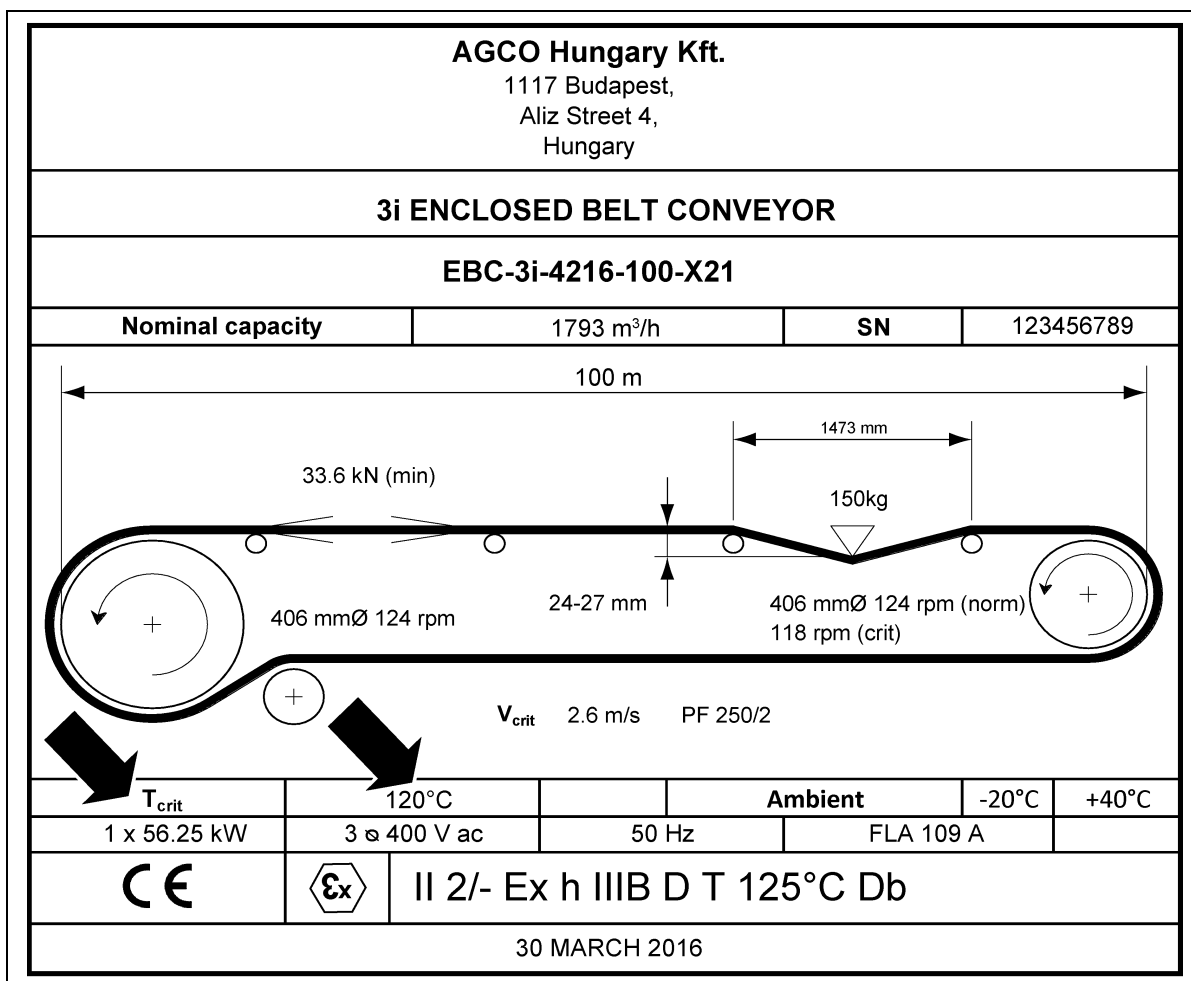

Figure 5C Rating Plate Showing Bearing and Conveyor Critical Temperature
1. Maximum permissible temperature (T_{crit}) is give on the rating plate and typically will be 120°C. Temperature monitoring will detect any temperature exceeding this and bring the conveyor to a safe stop. (See Figure 5C.)